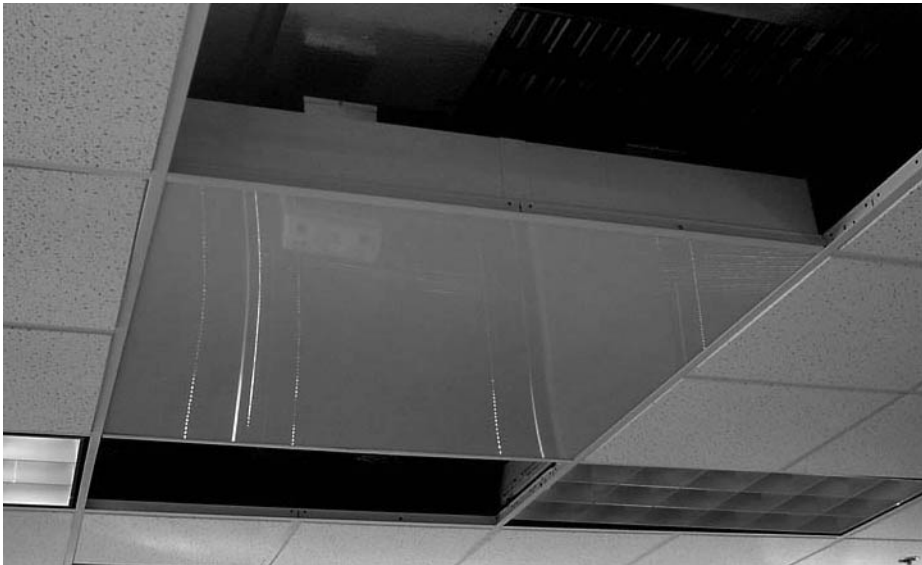

Figure 9: GPI Light Box
3. Slide the graphic panel in place between the grid and the edge(s) of the GPI box(es). See figure 9.